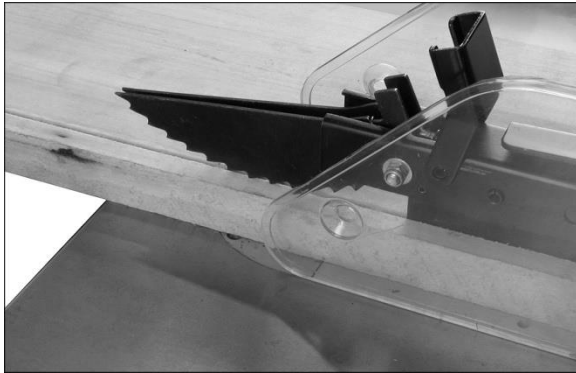

Figure 9-1
- ❑ As the machine receives use, the operation of the anti-kickback pawls should be checked periodically (Figure 9-1). If the pawls do not stop the reverse motion of a workpiece, resharpen all the points.